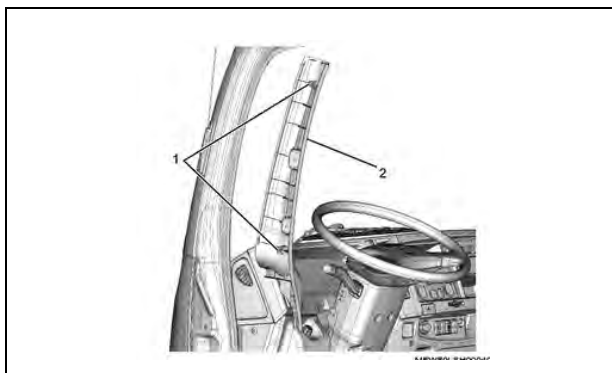

Figure 9
10. Pull the front door weatherstrip away from the front pillar trim cover. Then pull the front pillar trim cover up and remove it from the front pillar. (See Figure 9.)